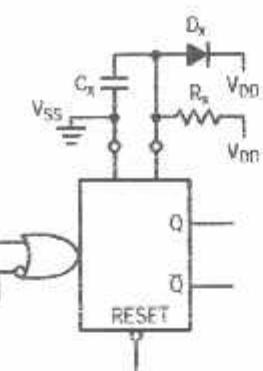

Figure 11. Use of a Diode to Limit Power Down Current Surge
The maximum usable resistance  $R_X$  is a function of the leakage of the capacitor  $C_X$ , leakage of the MC14538B, and leakage due to board layout and surface resistance. Susceptibility to externally induced noise signals may occur for  $R_X > 1 M\Omega$ . If  $C_X > 15 \mu F$ , use discharge protection diode per Fig. 11.
Large capacitance values can cause problems due to the large amount of energy stored. When a system containing one MC14538B is powered down, the capacitor voltage may discharge from  $V_{DD}$  through the standard protection diodes pins 2 or 14. Current through the protection diodes should be limited to 10 mA and therefore the discharge time of the  $V_{DD}$  supply must not be faster than  $(V_{DD}) \cdot (C)/(10 \text{ mA})$ . For example, if  $V_{DD} = 10 \text{ V}$  and  $C_X = 10 \mu\text{F}$ , the  $V_{DD}$  supply would discharge no faster than  $(10 \text{ V}) \times (10 \mu\text{F})/(10 \text{ mA}) = 10 \text{ ms}$ . This is normally not a problem since power supplies are heavily filtered and cannot discharge at this rate. When a more rapid decrease of  $V_{DD}$  to zero volts occurs, the MC14538B can sustain damage. To avoid this possibility use an external clamping diode,  $D_X$ , connected as shown in Figure 11.